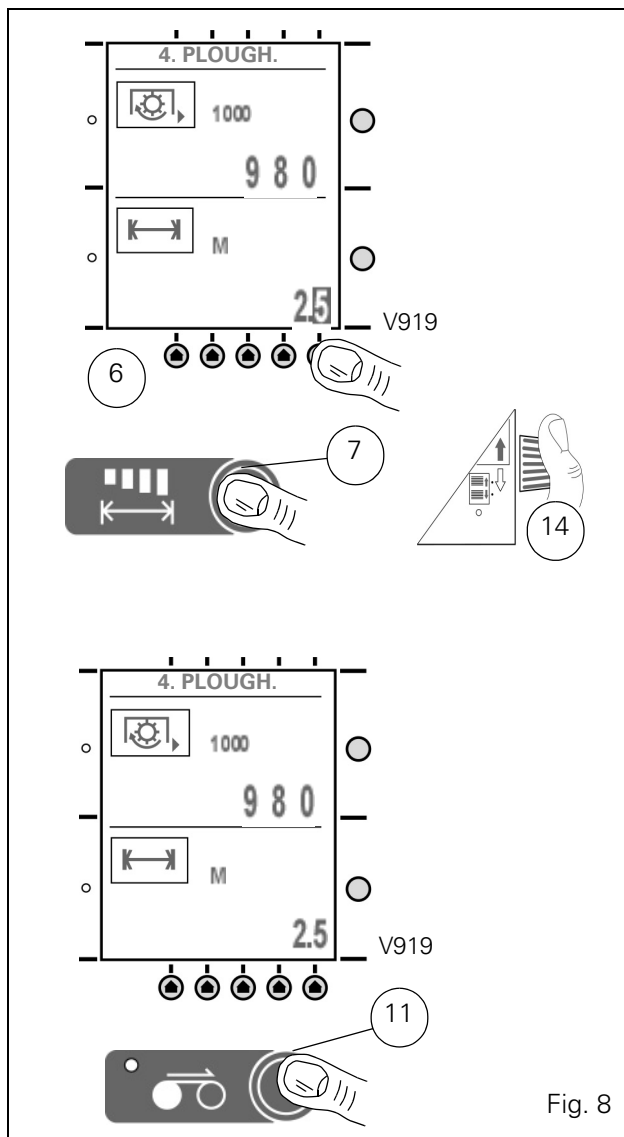

Fig. 8
Select the working width of the implement to be used by pressing the key ref. 7 (Fig. 8), modify the digits by pressing the corresponding keys ref. 6, then turn the knob 14 to display the new values, and press the key ref. 7 again to return to the previous screen.